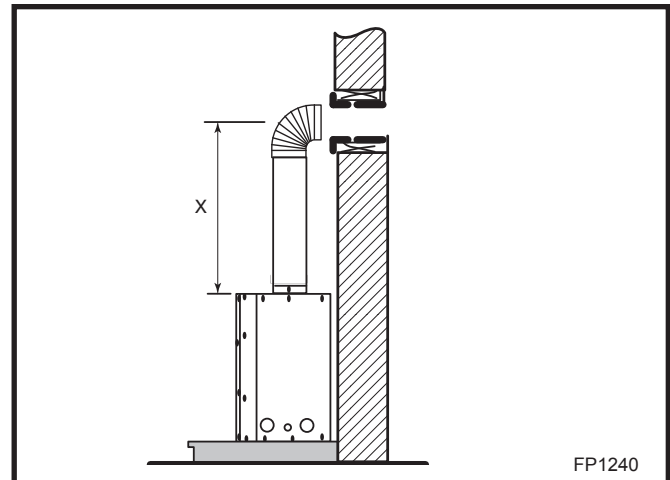

Fig. 44 Vertical height requirement.
Place fireplace into position. (Fig. 44) Measure the vertical height (X) required from the base of the flue collars to the center of the wall opening.